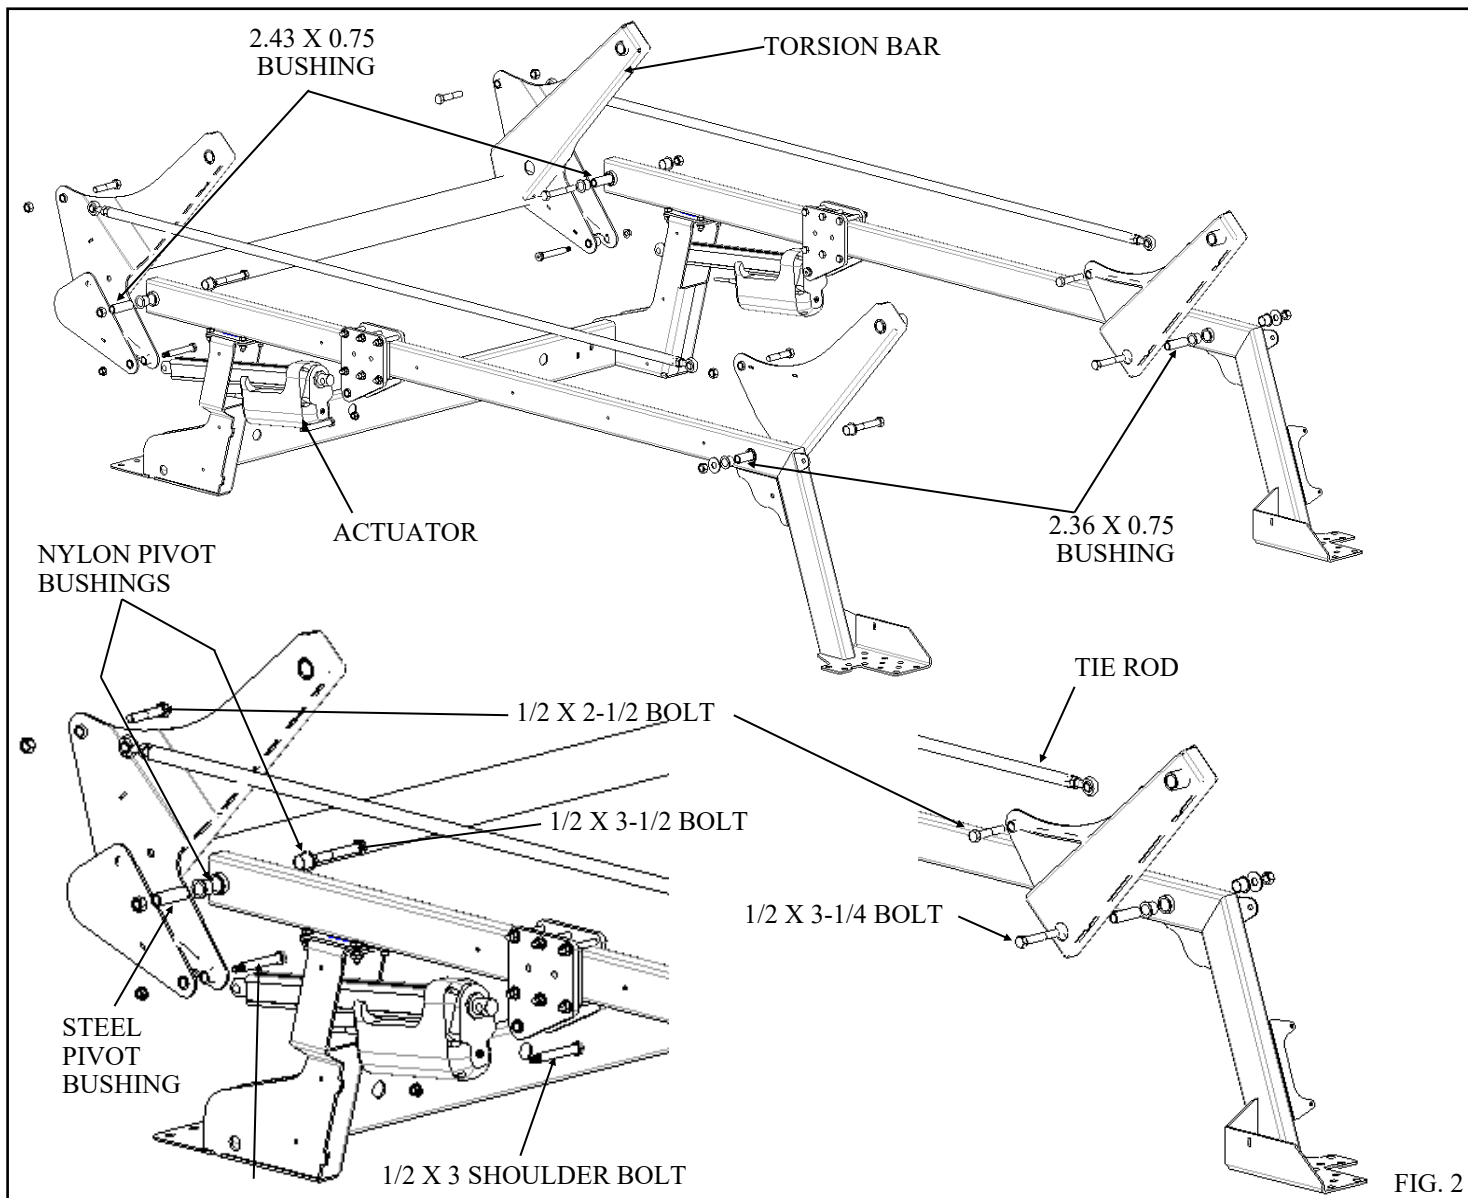

FIG. 2
- 6.4 Insert the steel and nylon pivot bushings into the deck frame. (See **FIG. 2**)
- 6.6 Install the motor end of the actuators in the actuator mounts using (2) 1/2 X 3 shoulder bolts, and (2) 3/8 serrated flange nuts. The motor housing of the actuator should be below the actuator body. (See **FIG. 2**)
- 6.7 Attach the rod ends of the actuators to the torsion bar with (2) 1/2 x 3 shoulder bolts and (2) 3/8 serrated flange nuts. (see **FIG.2**)